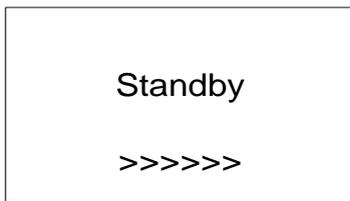

Figure 5-3 Inverter system in standby mode
(3) Standby mode, as shown in Figure 5-3: